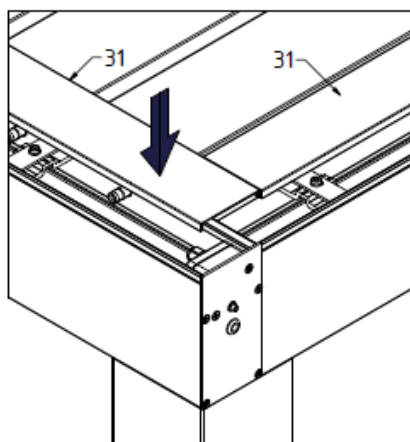

Fig. 30
35. Click on all rim profiles from above with the revision profiles (31) - fig. 30. The correct closure of the fascias depends on the uniform spacing of the braces inserted at the top edge of the beams.